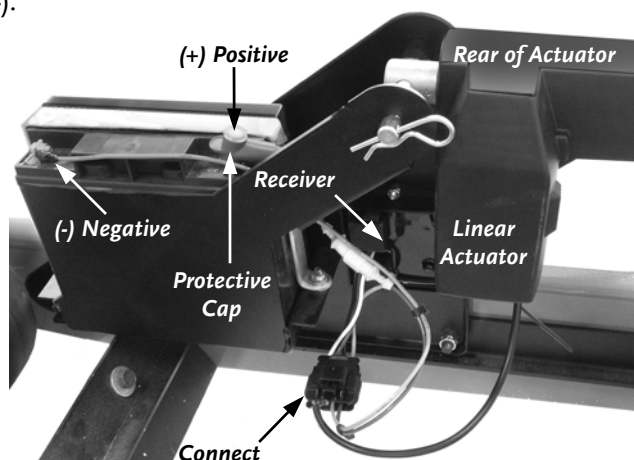

Figure 5
7. Connect the Linear Actuator and the Receiver connectors together (**Figure 5**).
8. Using a 5/16" Wrench or Socket, connect the Positive Battery wire (red), tighten securely, and install the Protective Cap (**Figure 5**).
9. Install the Negative Battery Wire (black) and only hand tighten at this time (**Figure 5**).